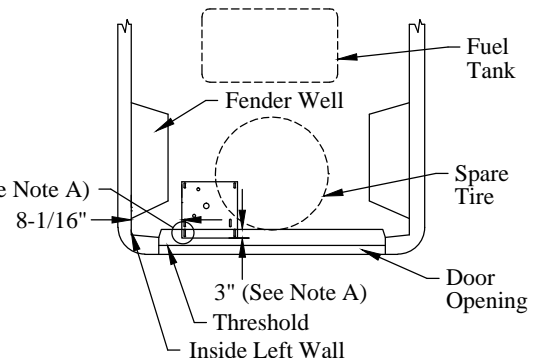

Figure 3: Base plate location and obstructions.
- 5. Position** the base plate in the van as described in either note A or B (Figure 3).